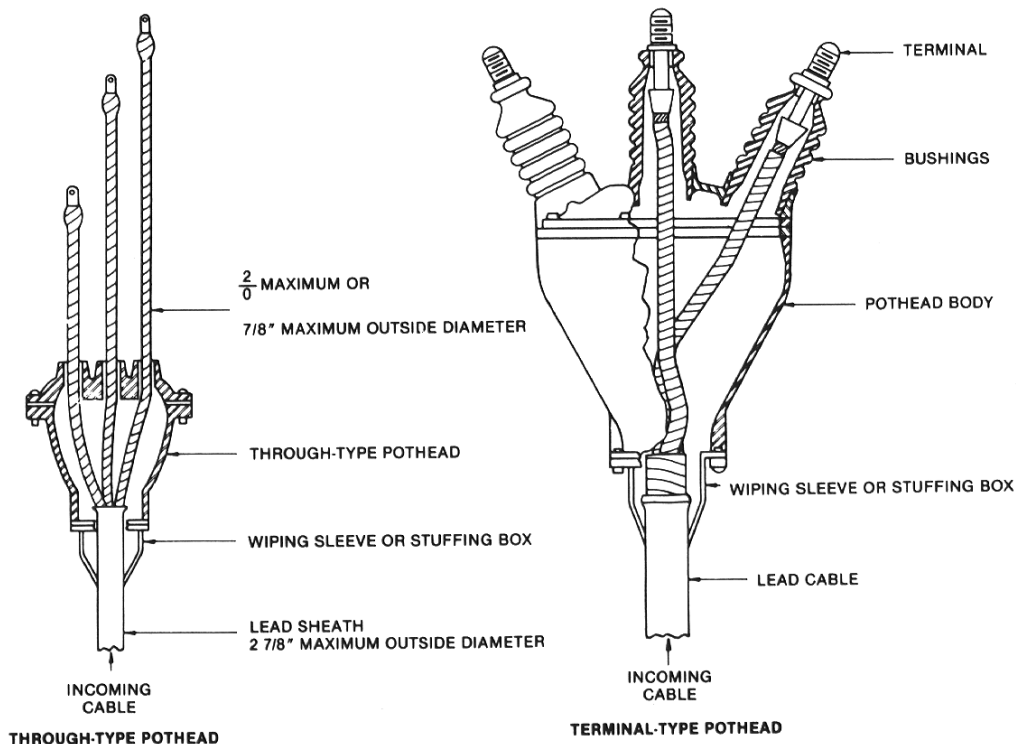

Figure 39. Termination of cable in pot heads.
2. Prepare the cable for termination in accordance with the manufacturer's instructions. For suggested terminating methods, see pages 20 through 23 and Fig. 39 through 45.
Termination of lead-covered cable requires the use of potheads (see Fig. 39). The pothead manufacturer's instructions should be followed in terminating the cable at the pothead. Standard Limitamp starters have space for locating one pothead of the pull-through type which accommodates up to and including 2/0, three-conductor, 5000-volt cable. In this type of pothead, the three conductors of the cable are fanned out within the pothead and pass completely through it, with the pothead sealing and terminating the lead covering. For larger cables, potheads with terminating bushings are required. In this case, or when more than one pull-through type is required, special cable entrance compartments are available.